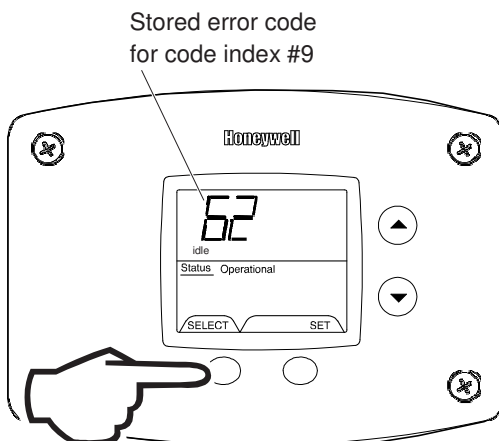

Fig. 67
5. Press the 'Select' button for code index #9 to view if there are any code numbers (Fig. 67).